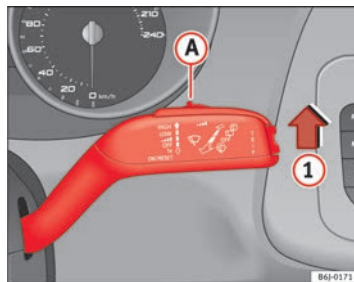

Fig. 65 Windscreen wiper lever
- Move the windscreen wiper lever into position ① ⇒ Fig. 65.
- Move the control ① to the left or right to set the sensitivity of the rain sensor. Control to the right: highly sensitive. Control to the left: less sensitive.